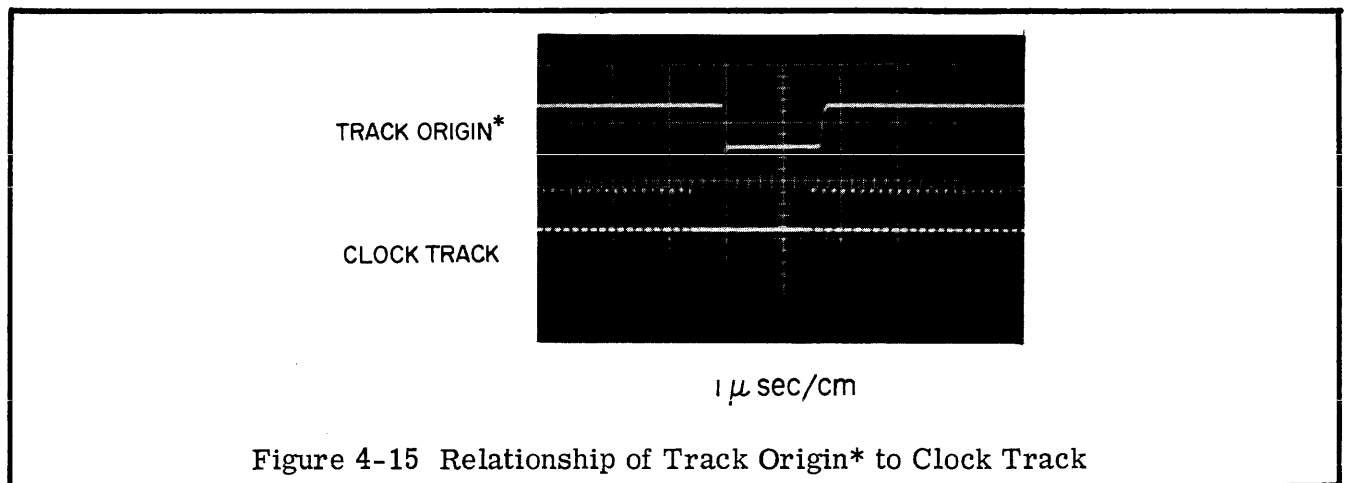

Figure 4-15 Relationship of Track Origin* to Clock Track
A Gap Detector circuit generates a Track Origin* signal from the gap in the clock track signal. The pulse is approximately two-microseconds long, and is generated once per disc revolution and sent to the INTERFACE to mark the beginning of each data track. See Figure 4-15.
4.6.2.3 Gap Detector. One of the clock track read-amplifier outputs (CRA-) is applied to pin X22 of the Multipurpose Card. Transistor Q8 inverts the signal, and capacitor C8 is kept discharged by the clock pulses. This capacitor charges when a gap occurs, turning ON Q9 and turning Q10 of the S/T OFF. Q11 therefore turns ON during the gap time (as shown in Figure 4-15) to provide the Track Origin* pulse at pin -19.